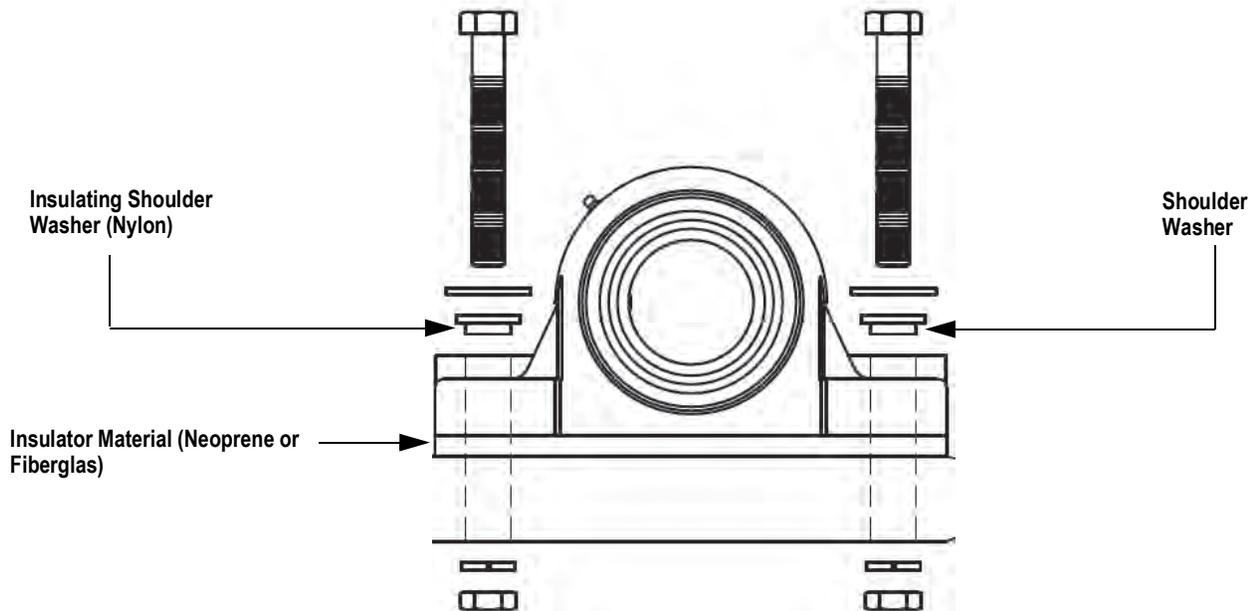

Figure 2-6. Bearing Block Insulating Method
Figure 2-6 shows a method of insulating the complete bearing block from the conveyor frame. This requires drilling the bolt holes through the bearing block to a diameter large enough to accept an insulating shoulder washer. The bearing block should also be insulated from the conveyor frame with non-metallic insulators extending across the base of the block.
- If the Bearing Block Insulating method (Figure 2-6) has been used, simply remove one of the shoulder washers on one end of the shaft.